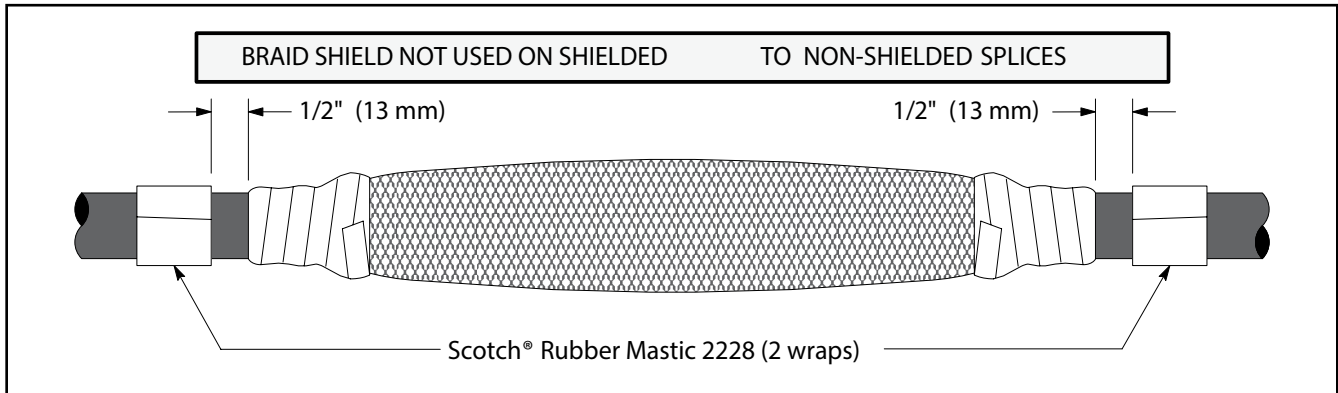

Figure 17
- 9.1 Apply 2 wraps of Scotch® Rubber Mastic 2228 around cable jackets (tacky side toward jacket), 1/2" (13 mm) from jacket ends (*Figure 17*).
- Apply 1 wrap of 2228 rubber mastic around cable jacket, 1/2" (13 mm) from jacket end (*Figure 17*).